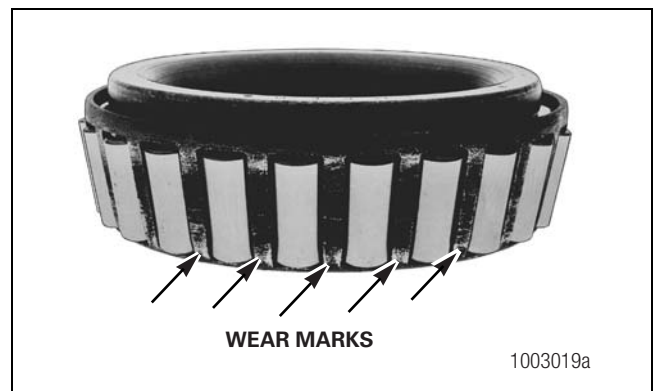

Figure 5.3
- Bright wear marks appear on the outer surface of the roller cage. Figure 5.3.